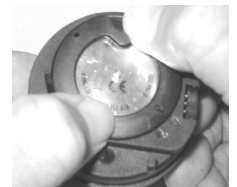
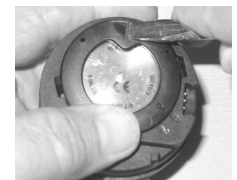

Fig. 114 - TABS ENGAGE
Fig. 115 - TABS TIGHT
- Using your fingers, turn the Ring counter clockwise 5 degrees until the tabs engage (Fig. 114), then tighten it 5 more degrees by turning it counter clockwise with the aide of a small blade screwdriver (Fig. 115).